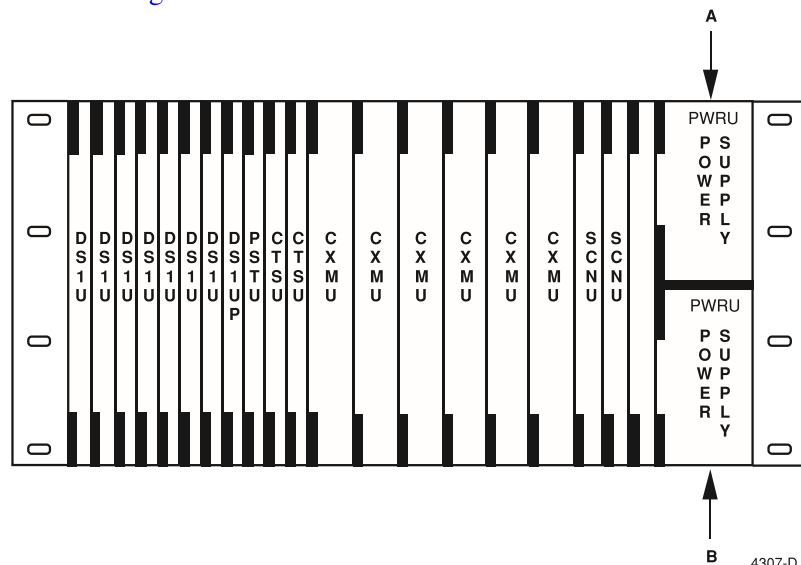

Figure 5-16. PWRU Mounting Slot Locations
5. Insert the PWRU into the lower power supply (PWRU B) location in the HDT mounting shelf as shown in Figure 5-16.